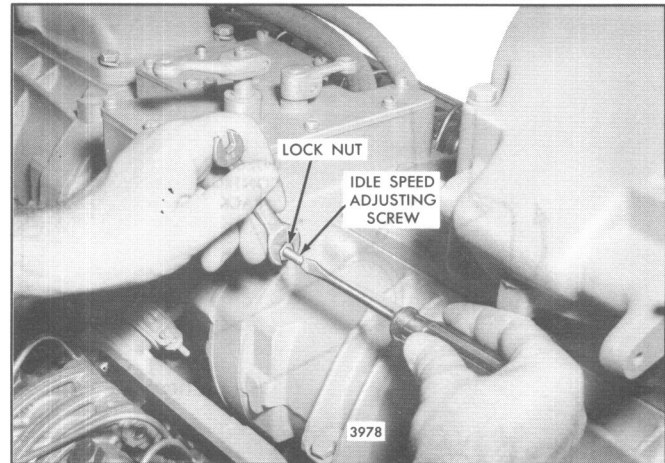

Fig. 9 – Adjusting Engine Idle Speed
- With the engine running, at normal operating temperature and with the buffer screw backed out to avoid contact with the differential lever, turn the idle speed adjusting screw (Fig. 9) until the engine is operating approximately 15 rpm below the recommended idle speed. The recommended idle speed is 400–450 rpm but may vary with certain engine applications.